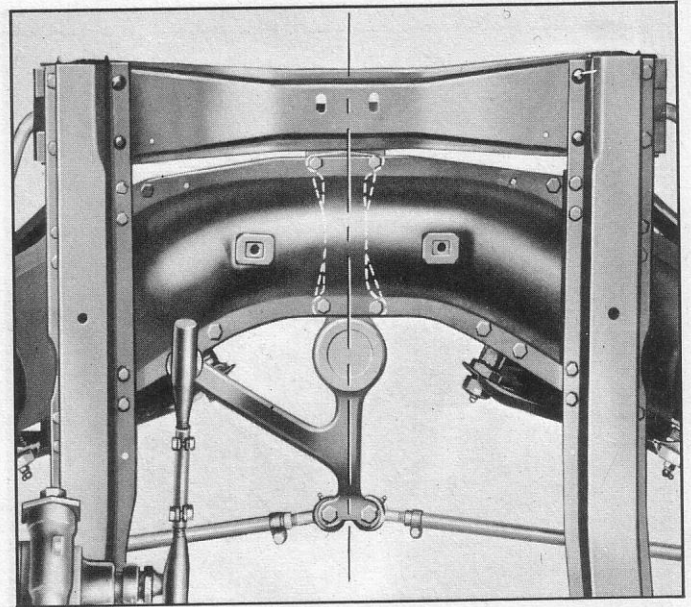

Fig. 6—Checking Third Arm Alignment to Determine Drag Link Adjustment
- With the steering gear centered, check that the third arm and its mounting bracket are on the same centerline with a straight edge. If the drag link length is correct, a straight edge centered lengthwise between the four mounting bracket bolts will fall directly between the two tie rod balls at their attachment to the rear of the third arm (fig. 6). If not, loosen the two drag link clamps and adjust its length to obtain this center-